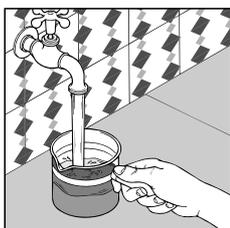

fig. 1
- 2 Using the carafe supplied (fig. 1) pour water into the boiler (fig. 2) according to the amounts shown in the table on page 10.